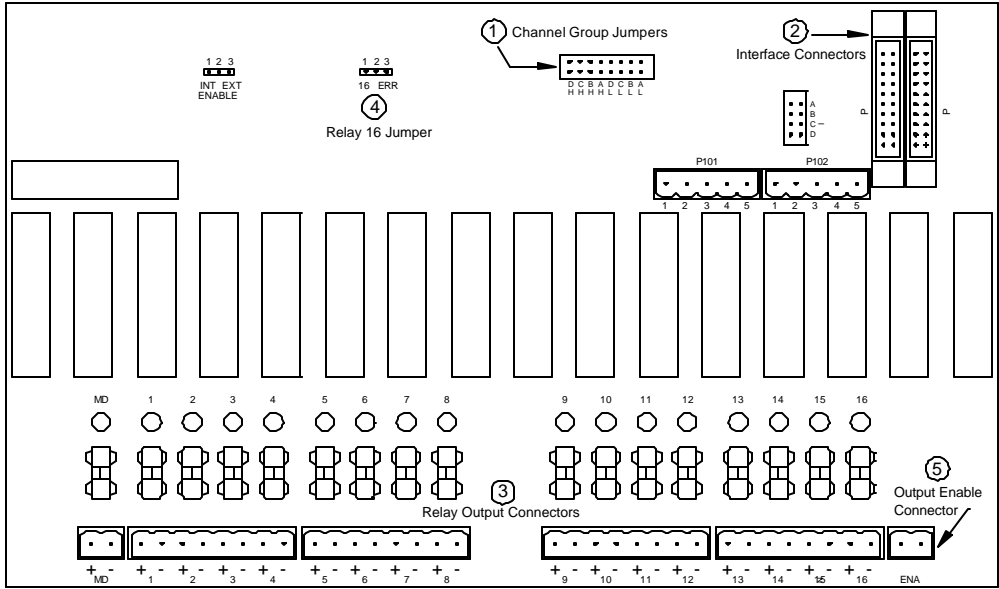

Figure 3.4.1 PLS-601 Solid State Relay Board
Figure 3.4.1 shows the layout of the solid state relay board.
The PLS-601 control unit provides sixty-four channel outputs that are divided into four groups of sixteen channels each. The channels are designated as A01-A16, B01 - B16, C01 - C16, and D01-D16. Up to four solid state relay boards, each with sixteen output relays can be attached to the PLS-601 control unit. Each board must be assigned to one of four output groups designated as A, B, C, or D. This is done by installing the two channel group jumpers in the proper positions on the relay board (see "Channel Group Jumpers" in Figure 3.4.1). The solid state relay board must be configured to match the PLS-601 output group that will drive it. Output Group A will drive relay output board A, Group B will drive relay output board B and so forth.
Each solid state relay output board contains two 20 pin male interface connectors labeled P101A and P101B (see Interface Connectors in Figure 3.4.1). The PLS-601 Control Unit will connect to P101A through the use of a twenty pin ribbon cable. To add additional solid state relay output boards, simply connect P101B of the first (or previous) relay output board to P101A of the next relay output board. Up to four solid state relay output boards can be connected to the PLS-601 Control Unit by this interface method.
Each solid state relay board contains four 8 pin plug connectors that provides two output pins for each of the sixteen channels (see Relay Output Connectors in Figure 3.4.1). These outputs are normally off until activated by the PLS-601 Control Unit. The solid state relay output connectors are labeled (+ 1 -) through (+ 16 -). In addition, a 2 pin connector is available for the MOTION DETECT function. This connector is labeled (+ MD -).
(4) Relay 16 Jumper Options - Solid State Relay Board
Solid state Relay 16 may be used as one of the standard channel output relays, or it may be used as an indication that an error has occurred in the PLS-601 Control Unit. To enable solid state Relay 16 as a standard output, connect pins 1 and 2 together of J1 (see Relay 16 Jumper in Figure 3.4.1). To enable solid state relay 16 as an error indicator, connect pins 2 and 3 together of J1. When solid state relay 16 is used as an error indicator, it will be active in non error conditions (ON) and non-active in an error condition (OFF).
(5) Output Enable - Solid State Relay Board
Each solid state relay board has a 2 pin input connector that implements an OUTPUT ENABLE function (see Output Enable Connector in Figure 3.4.1). This connector is labeled ENA. The ENA pins must be shorted together in order for any of the seventeen solid state relay outputs to be enabled. If this connection is opened, all seventeen solid state relay outputs will be disabled.